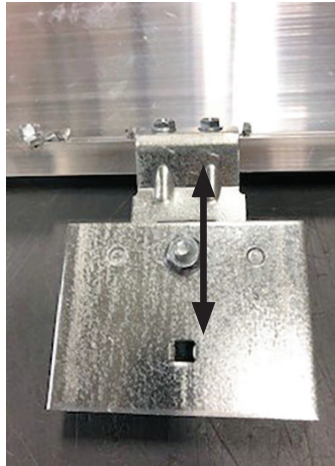

Figure 3A: weight stack on counterbalance bracket in factory position
- Locate the $\frac{7}{16}$ in. (11 mm) nut on the weight stack and loosen until the weight stack may slide freely on the counterbalance bracket (see Figure 3A)
- Locate the $\frac{7}{16}$ in. (11 mm) nut on the weight stack and loosen until the weight stack may slide freely on the counterbalance bracket (see Figure 3A).